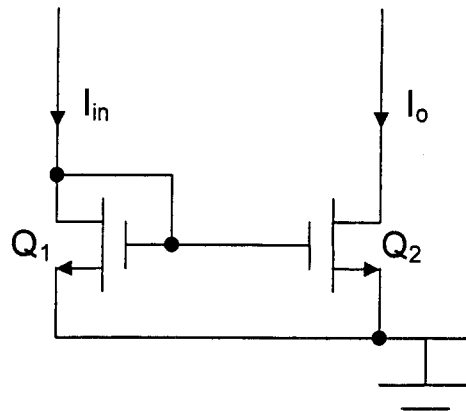

Figure 6.1
6. (a) Give one advantage and one disadvantage of each of the three CMOS current mirror circuits shown in Figures 6.1, 6.2 and 6.3.